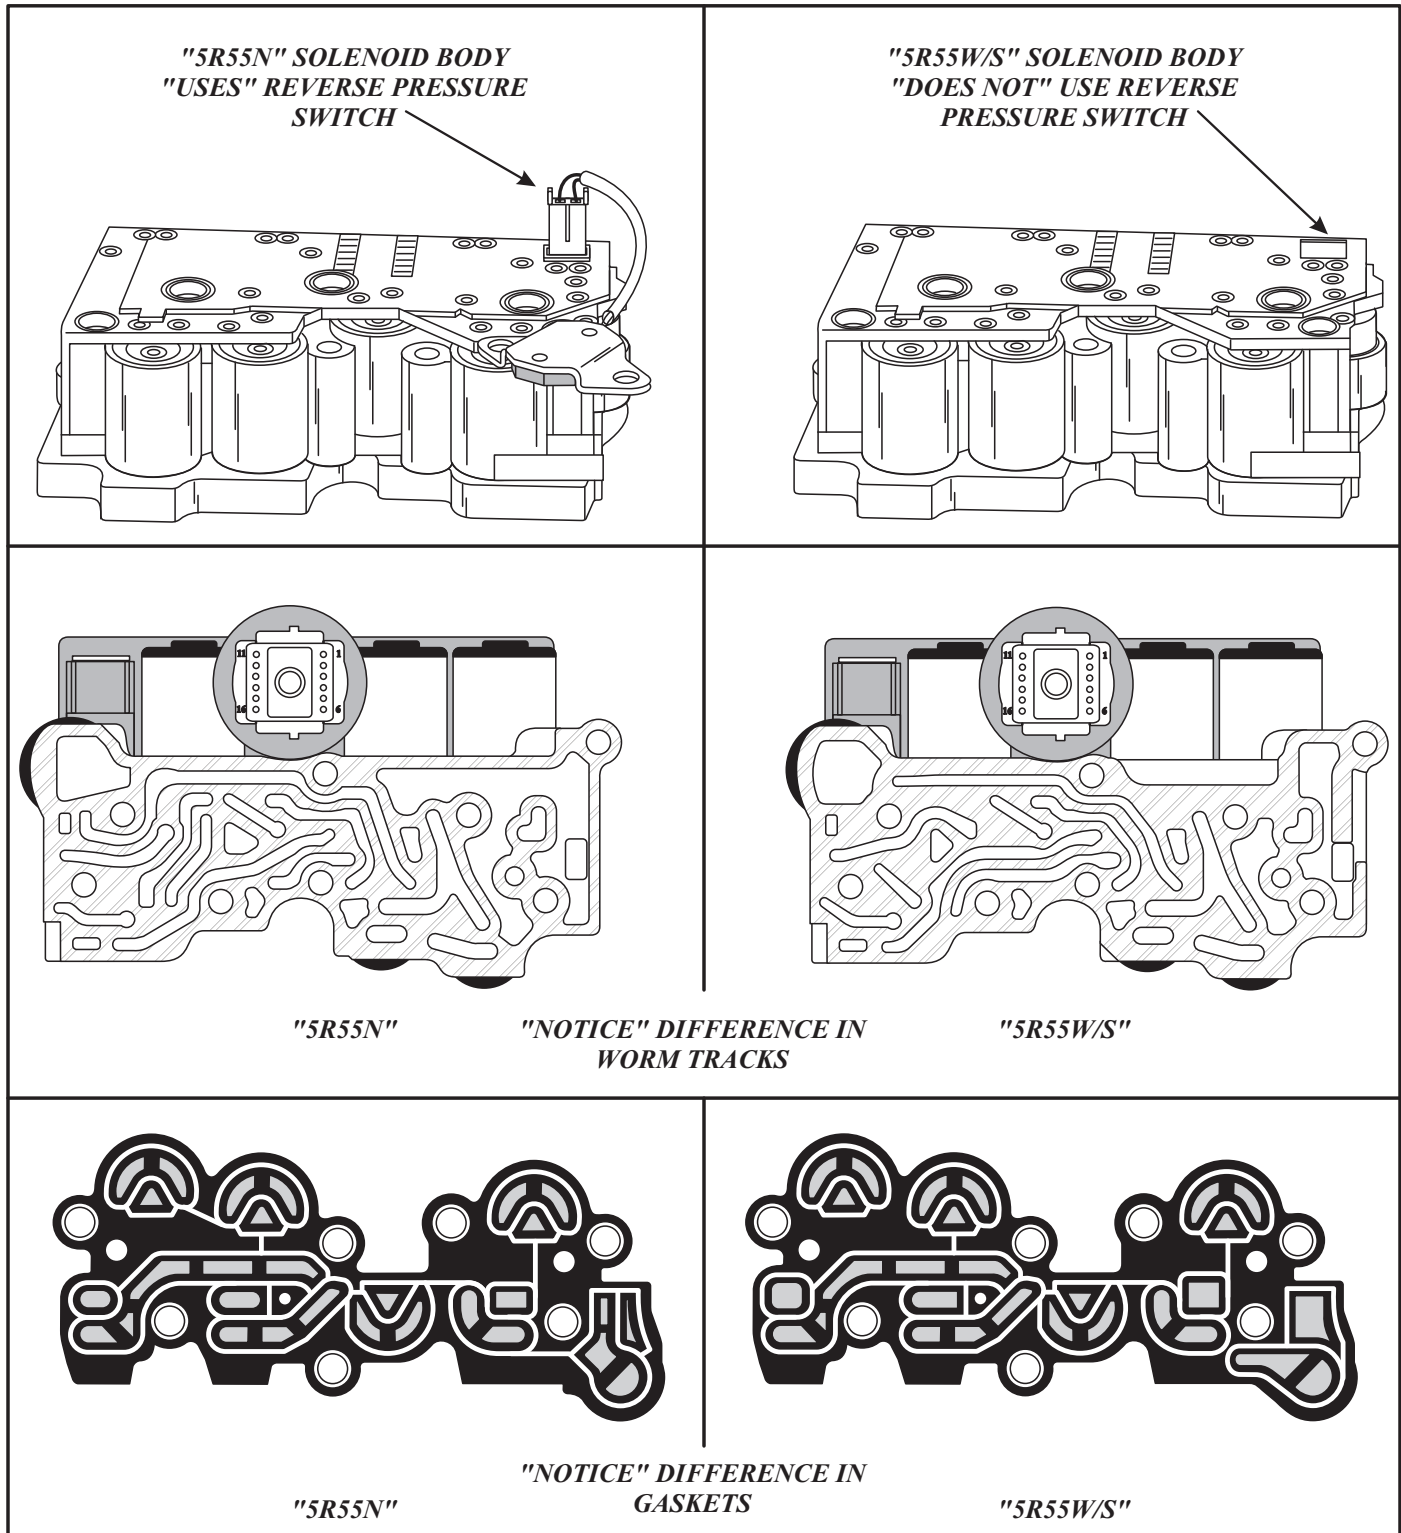
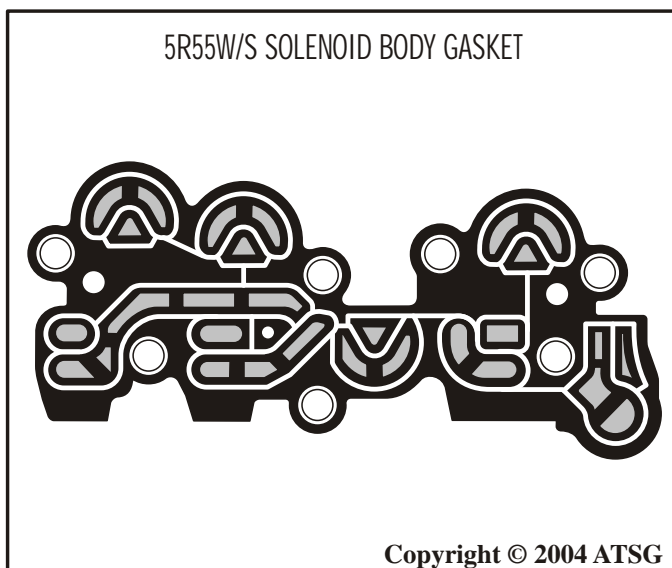

Figure 119
Figure 120
The solenoid bodies are different between the 5R55W/S and the 5R55N transmissions, and they **"Will Not"** interchange. The solenoid body differences and how to identify between the two, are shown in Figure 119 below.
5. Ensure that you have the proper gasket for the 5R55W/S, as shown in Figure 120. Refer to Figure 119 for the differences.